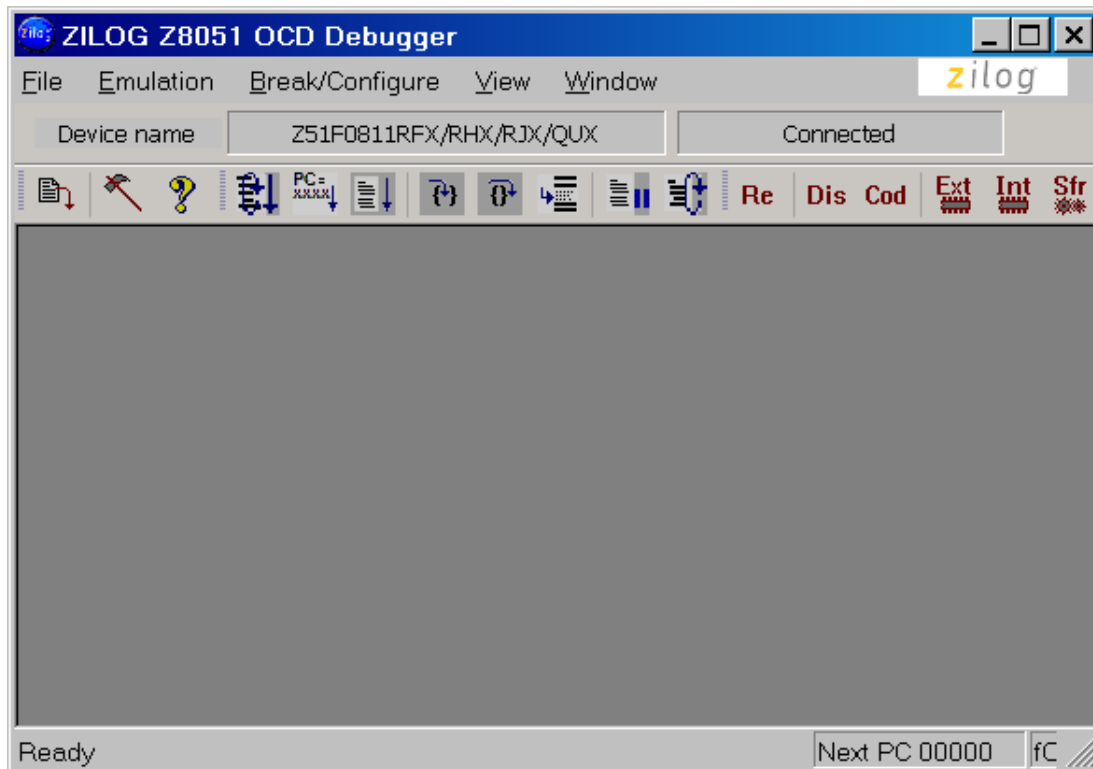

Figure 15. Initial OCD Screen
4. Run the Z8051 OCD software. From the **Start** menu, navigate to **All Programs** → **Zilog Z8051 Software and Documentation <version_number>** → **Zilog Z8051 OCD <version_number>**. Once launched, the program will display *Connected*, as shown in Figure 15.